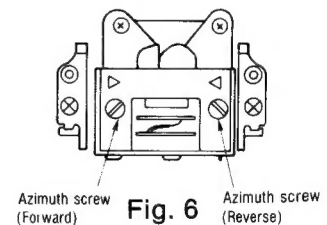
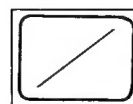

Fig. 6
Fig. 9
9. In the forward playback mode, playback the 8kHz signal from the test tape (QZZCFM). Adjust the azimuth screw (Forward) shown in fig. 6 for maximum output L-CH and R-CH levels. When the output levels of L-CH and R-CH are not at maximum at the same point adjust as follows.
10. Turn the azimuth screw (Forward) shown in fig. 6 to find angles A and C (points where peak output levels for left and right channels are obtained). Then, locate angle B between angles A and C, i.e., point where L-CH and R-CH outputs are balanced. (Refer to figs. 6 and 7.)
13. In the forward playback mode, playback the 8kHz signal from the test tape (QZZCFM). Adjust the azimuth screw (Forward) shown in fig. 6 so that pointers of the two VTVMs swing to maximum and a lissajous waveform as illustrated in fig. 9 is obtained on the oscilloscope.